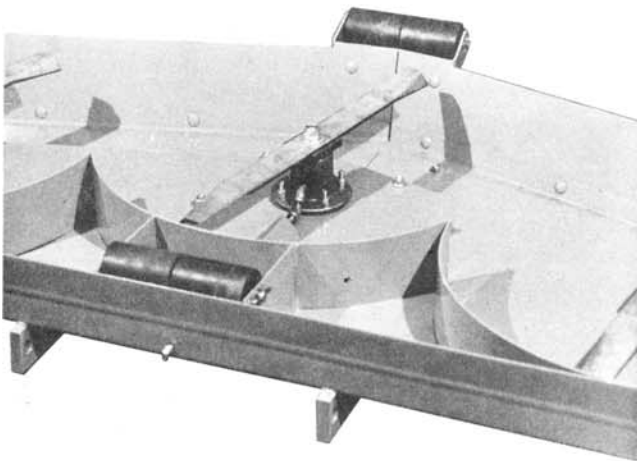

fig 4
3. Set blades (item 38) on each spindle making sure blades fit down in cradle (item 37). The lift portion of the blade points towards mower deck.
4. Put two bellville springs (item 108) on each spindle. Assemble bellville springs so both cups face blade. Secure with nut and torque 80-90 ft. lbs. (108.48 to 122.04 Nm). Wedge a piece of wood between blades and deck housing to keep blades from turning. See fig 4.